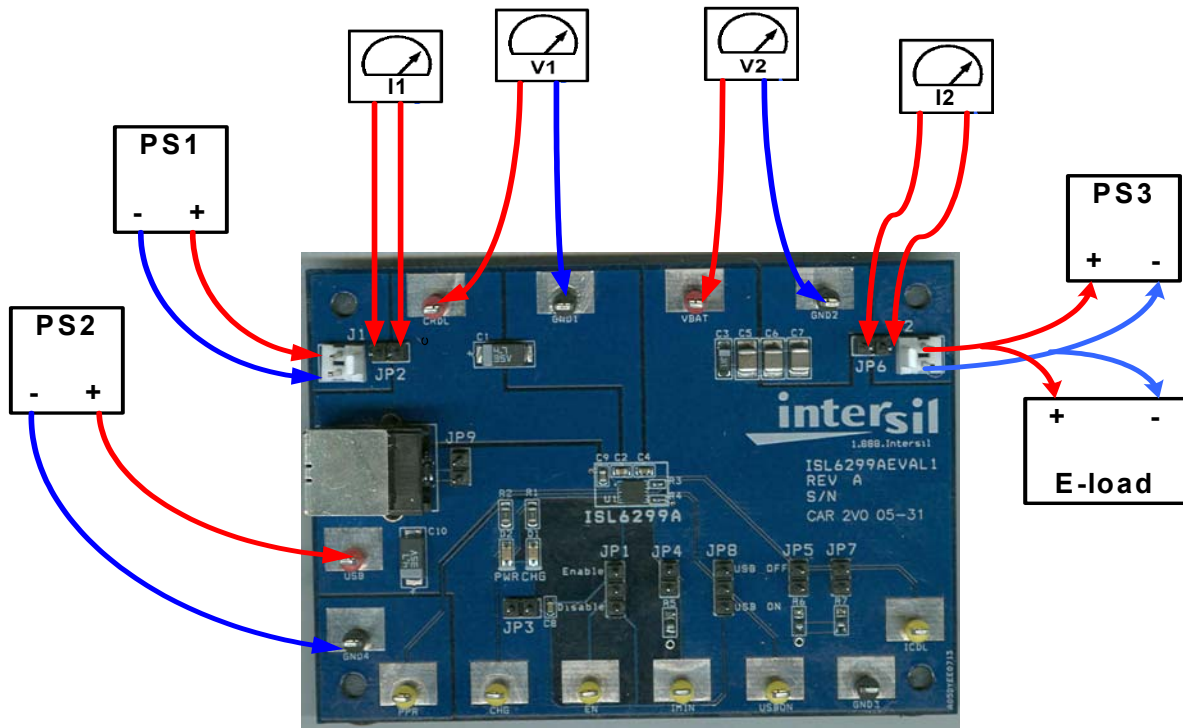

FIGURE 1. CONNECTION OF INSTRUMENTS
Quick Setup Guide (Refer to Figure 1)
- Step 3: Connect a current meter to JP6 as shown in Figure 1
JP2 - A shunt installed on JP2 connects the input source from connector J1 to the circuit if input current measurement is not needed. The shunt can be replaced by a current meter if input current measurement is needed, as shown in Figure 1.
JP6 - A shunt installed on JP6 connects the BAT pin to the output connector J2 if output current measurement is not needed. The shunt can be replaced by a current meter if output current measurement is needed as shown in Figure 1.